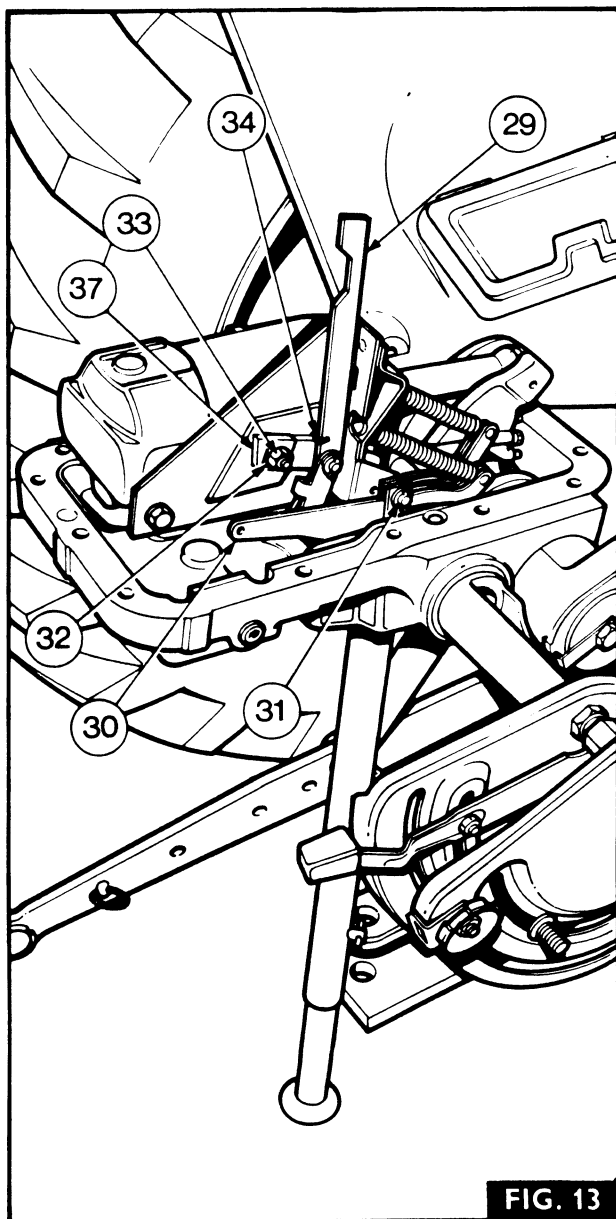
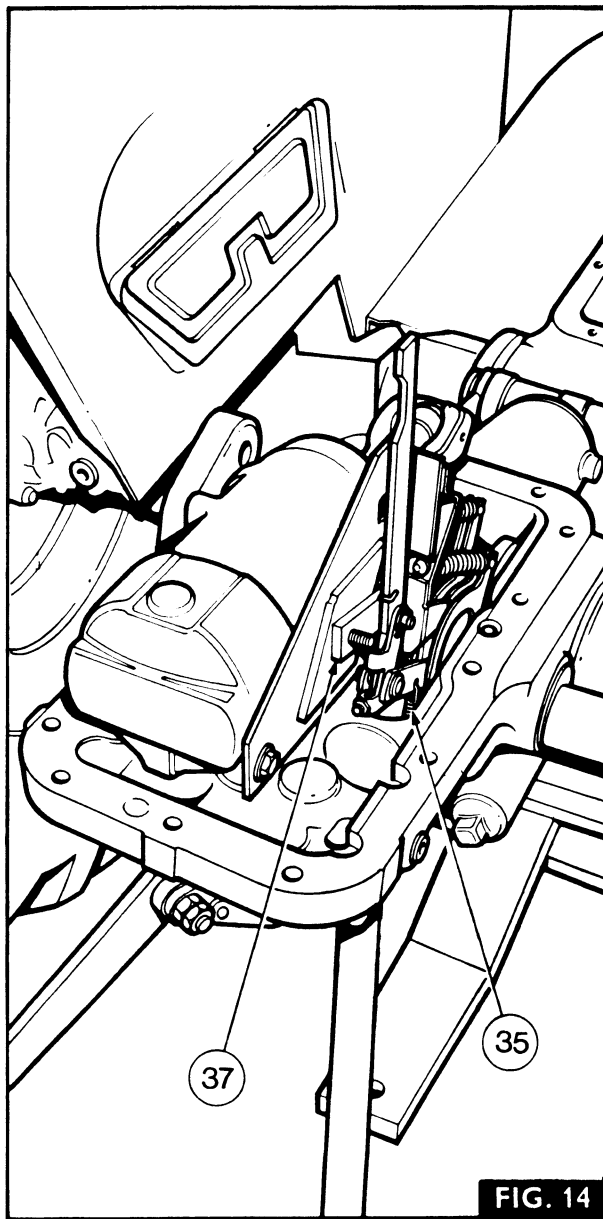
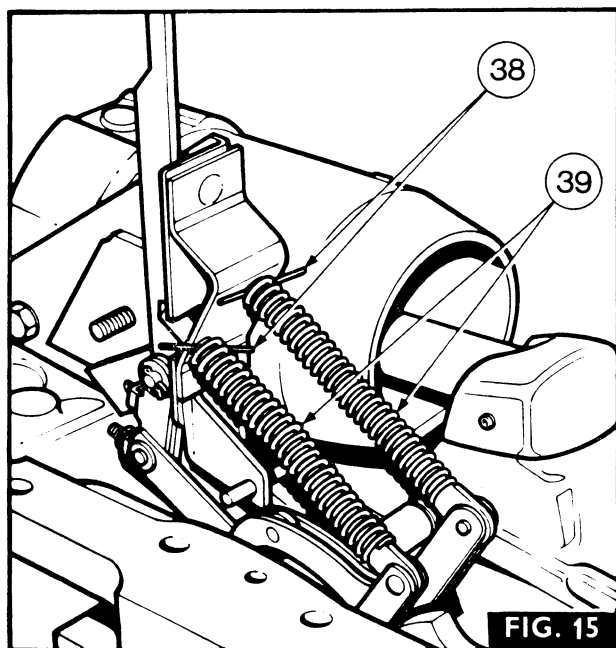

FIG. 13
FIG. 14
FIG. 15
13. Fig. 15. Remove the guide rod spring retaining pins (38).
14. Fig. 14. Refit the position Control spring (35).
15. Fig. 13. Locate the spring (34) on the vertical lever (29) and on the slide pivot (37).
2. Fig. 13. Remove the split pin (31) and the washer retaining the Pressure Control link (30), and remove the link.
3. Release the tabwasher, then remove the nut (33), tabwasher and spacer (32) on the slide pivot (37).
4. Release the spring (34) on the vertical lever (29).
5. Fig. 14. Remove the Position Control spring (35).
6. Release the slide pivot (37) from the bolt.
7. Fig. 15. Fit a pair of pins (38) to retain the springs (39) on their rods.